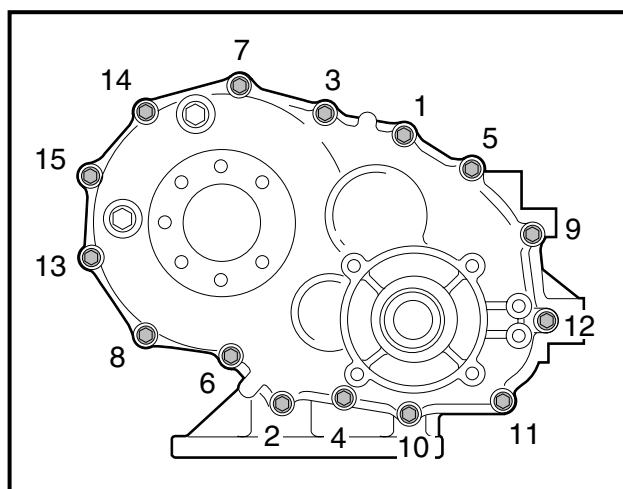

Figure 6-56 Casing Torque Sequence
10. Install and finger-tighten the fifteen bolts (28) (**Figure 6-5, Page 6-4**) that secure the left and right sides of the case together. Then, in sequence shown, tighten the bolts to 17 ft-lb (23.1 N·m) (**Figure 6-56, Page 6-25**).